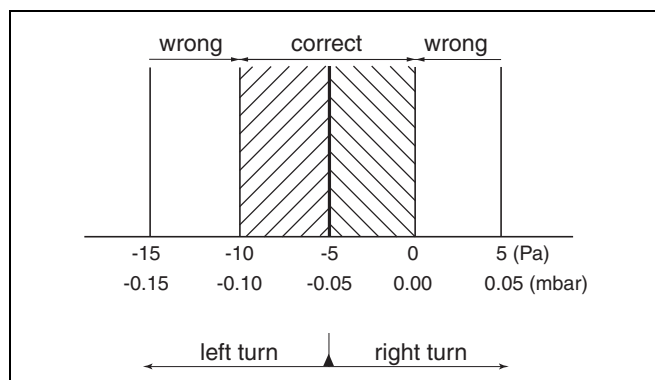

fig. 54 Pressure difference of gas/air ratio at partial load
- The optimum gas/air ratio is - 5 Pa (-0.05 mbar). The pressure difference should be between -10 and 0 Pa (see fig. 54).
- Adjust the adjustment screw of the burner pressure to the correct gas/air ratio using a (4 mm) socket head wrench and by referring to fig. 54.